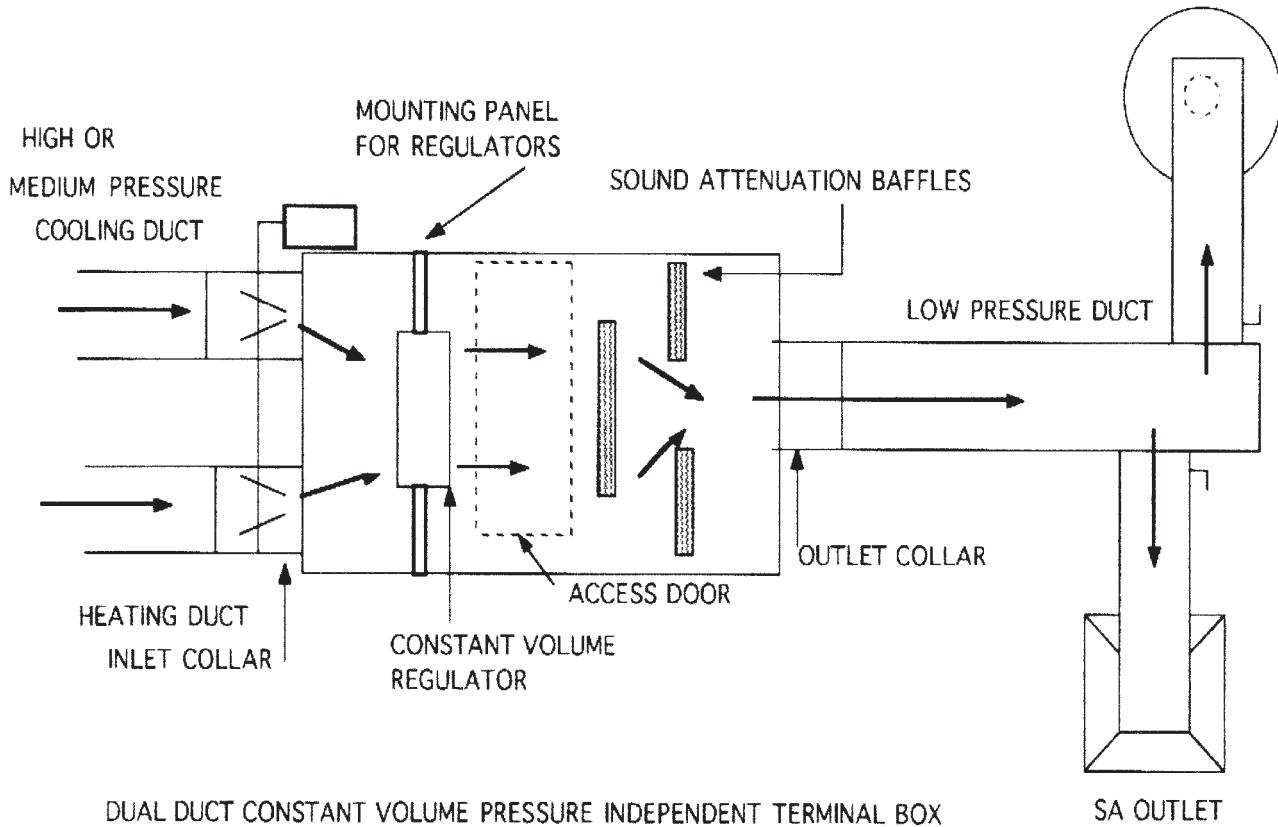

Figure 8-5. Constant Volume Double Duct Terminal Box
Constant volume dual duct terminal boxes (Figure 8-5) are supplied by separate hot and cold ducts through two inlets. The boxes mix warm or cool air as needed to properly condition the space and maintain a constant volume of discharge air. Dual duct boxes may use a mechanical constant volume regulator with a single damper motor to control the supply air. The mixing damper is positioned by the motor in response to the room thermostat. As the box inlet pressure increases, the regulator closes down to maintain a constant flow rate through the box. Another type of constant flow regulation uses two motors, two mixing dampers and a pressure sensor to control flow and temperature of the supply air. The motor connected to the hot duct inlet responds to the room thermostat and opens or closes to maintain room temperature. The motor on the cold duct inlet is also connected to the room thermostat but through a relay which senses the pressure difference across the sensor. The motor opens or closes the damper on the cold duct inlet to (1) maintain room temperature and (2) maintain a constant pressure across the sensor and therefore, a constant volume through the box.